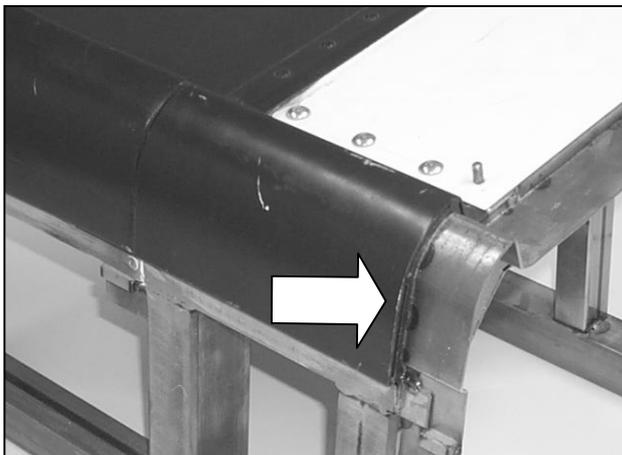

Figure 1: Mock-up showing the roof support corner bracket on which the fiberglass front cap is resting. The front cap part has been removed to show the bracket.
- 1) Using an angle or die grinder, remove all sealant and body filler from the affected seam. The gap should be about 5/32 inch (4 mm) wide and 19/64 to 25/64 inch (7.5 to 10 mm) deep, i.e. deep enough to expose the metal substructure on which the cap rests (see Figure 1).